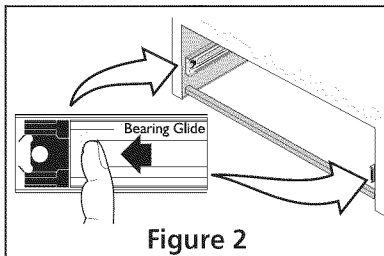

Figure 2
1. Pull the bearing glides to the front of the range (see figure 2).